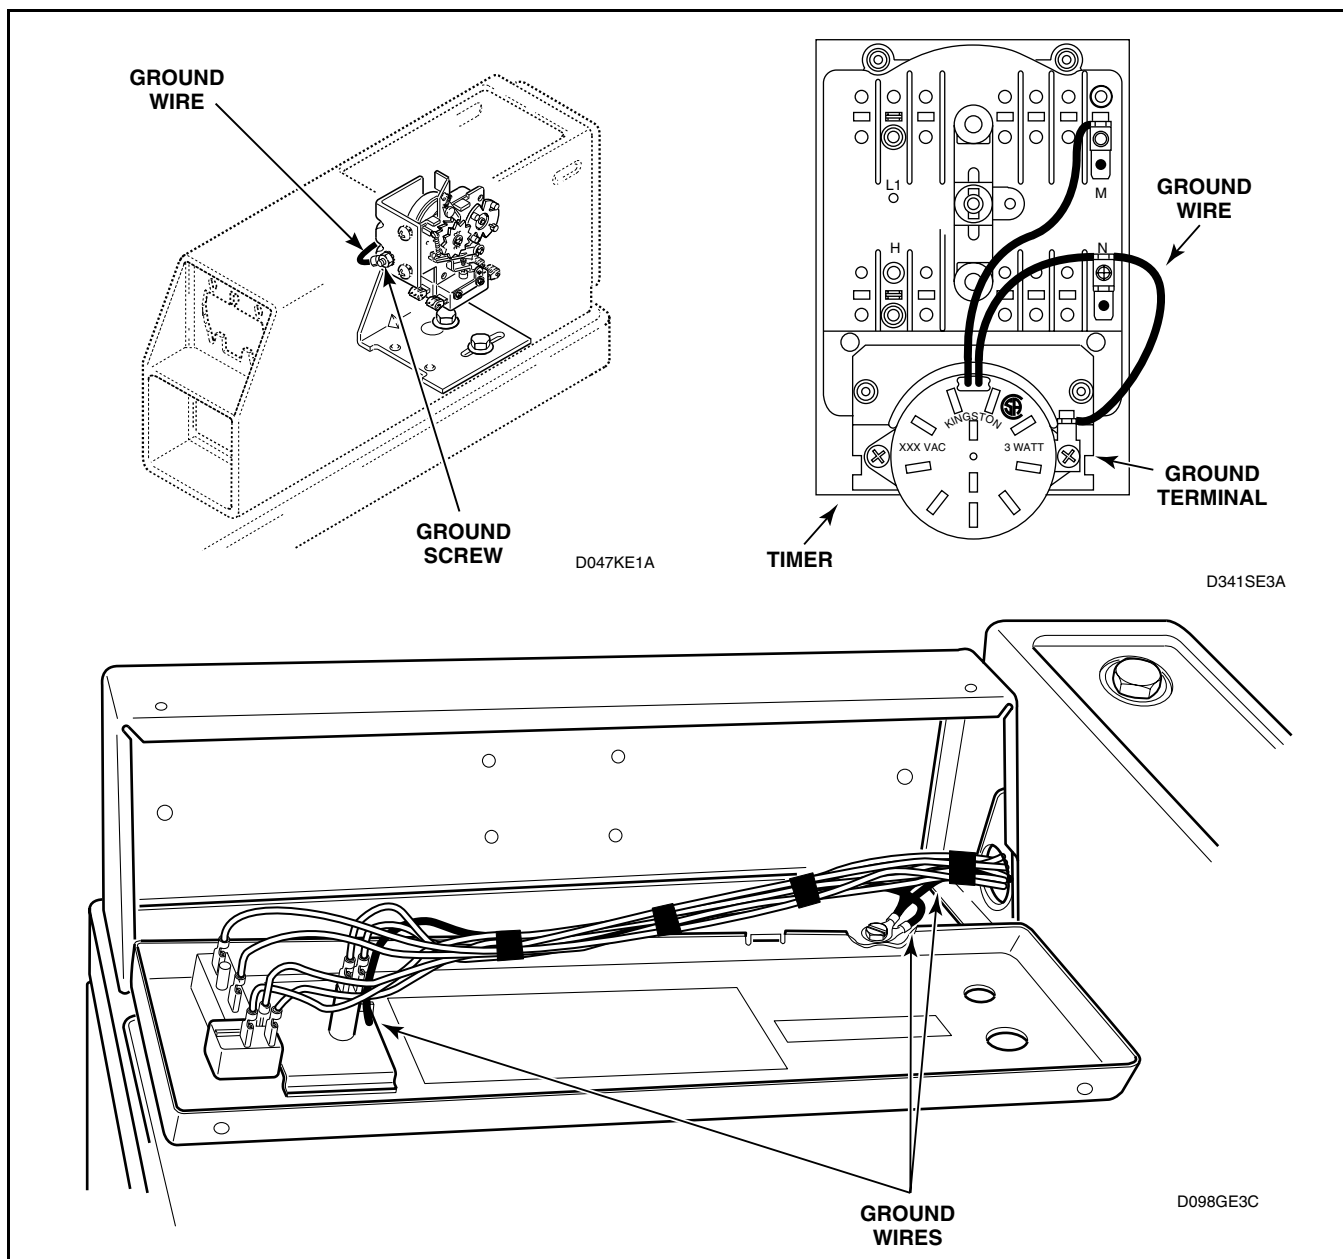

Figure 3
Refer to *Figure 3*.
- e. Remove ground wire from ground terminal on timer. Refer to *Figure 3*.